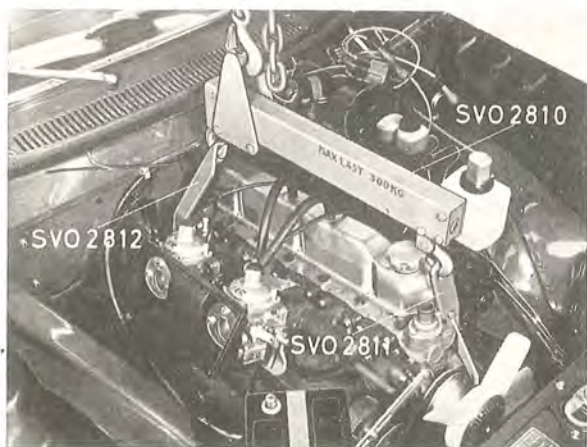

Fig. 2-8. Lifting out the engine with lifting tool SVO 2810
11. Remove the lower nuts from the engine front mountings. Fit the engine lifting unit with lifting beam SVO 2810 and move the block runner to the rear end of the lifting beam, see Fig. 2-8. (Use a nut puller for this adjustment.)